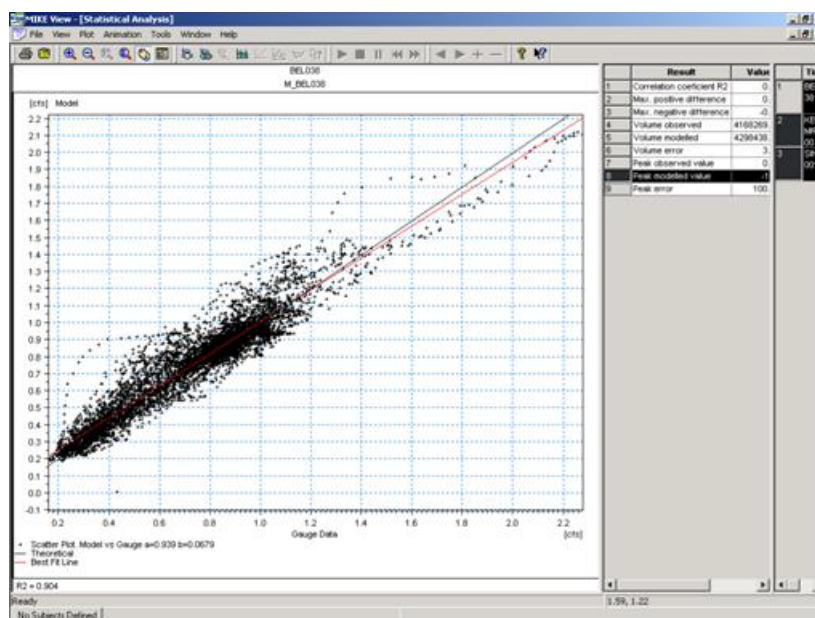

Figure 11.2 The Scatter Plot
The red line in the scatter plot, see Figure 11.2, is the line of best fit, and the coefficient of correlation ( $r^2$ ) is calculated. The  $r^2$  value is a measure of the degree of intensity of association between the data and the model. A high value (1) indicates that there is a very intense association, while a low value (0) indicates that there is a very low association.